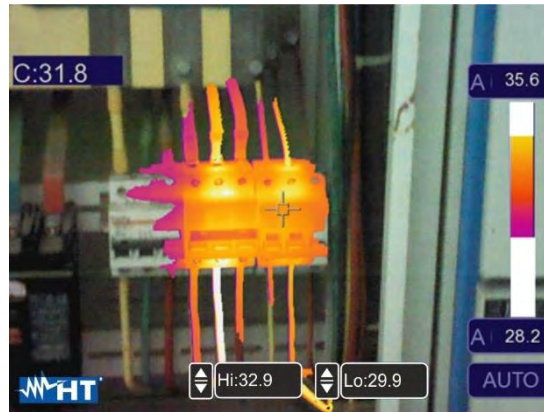

Fig. 44: Selection of Visible range
11. Touch the “Hi” and “Lo” fields at the bottom of the display and use the arrow keys ▲ or ▼ to set the value of the **maximum** and **minimum** temperature threshold. The instrument shows as radiometric IR image the spots with a temperature between the “Lo” and the “Hi” threshold, and as a visible image the spots with a temperature outside that range (see Fig. 44).